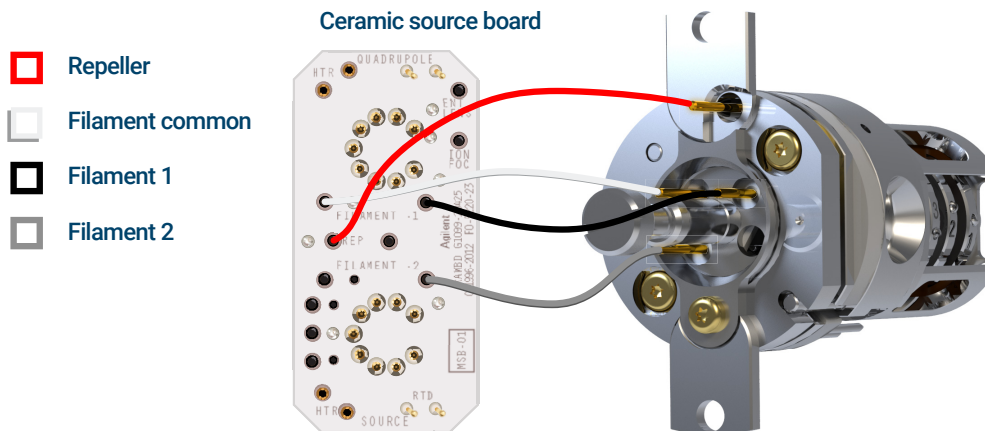

Figure 47 Wiring to be connected/disconnected during source installation or removal
- 1 Use tweezers or needle nose pliers to connect/disconnect the ceramic board wire leads (red, white, black, and gray) at the source connectors. (See **Figure 47.**)